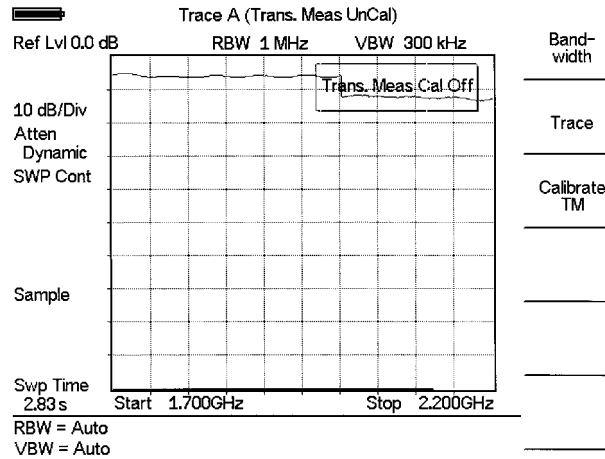

Figure 9-2. Uncalibrated Narrowband Trace
- Step 4.** Following the on-screen prompt, connect a phase-stable cable between the **RF Out** port and the **RF In** port. If an attenuator is required for the measurement, connect it directly to the **RF Out** port and connect the cable to the attenuator output. The displayed trace before calibration should be similar to the one shown in Figure 9-2.